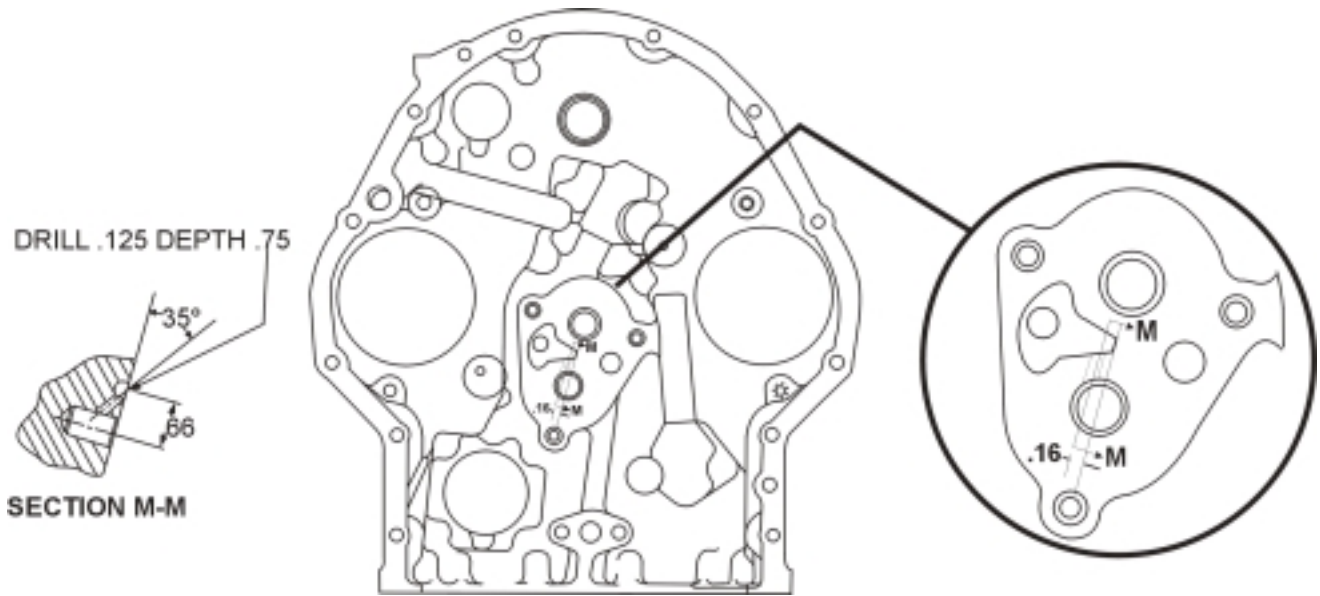

Figure 1. 4 and 6 Cylinder Direct Drive Models Except Those With Large Volume Oil Pump (See Text)
1. Drill passage with a 1/8 inch (.125) drill to a depth of 3/4 inch (.75) at a 35° angle to the surface of the oil pump mounting pad as shown in Figure 1.